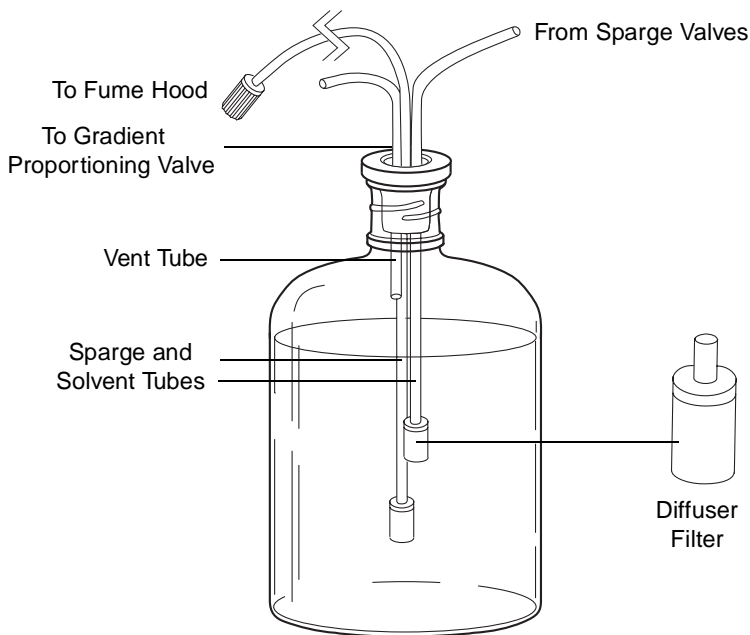

Figure 2-6 Installing Sparge Lines in a Solvent Reservoir
5. Install the caps onto the reservoirs, and ensure that the diffuser is completely immersed in solvent, as shown in Figure 2-6.
6. Install a length [4-foot (1.2 m) *minimum*] of fluorinated-ethylene-propylene (FEP) tubing (from the Startup Kit) from each reservoir to a suitable fume hood. This tubing vents the solvent vapors out of the reservoir. Be sure the end of this tubing remains above the fluid level in the reservoir, as shown in Figure 2-6.